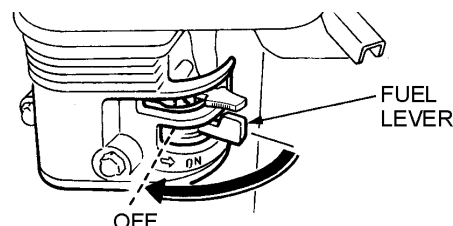

Figure 26. Fuel Valve Lever (Off Position)
- Place the fuel valve lever (Figure 26) to the **OFF** position.